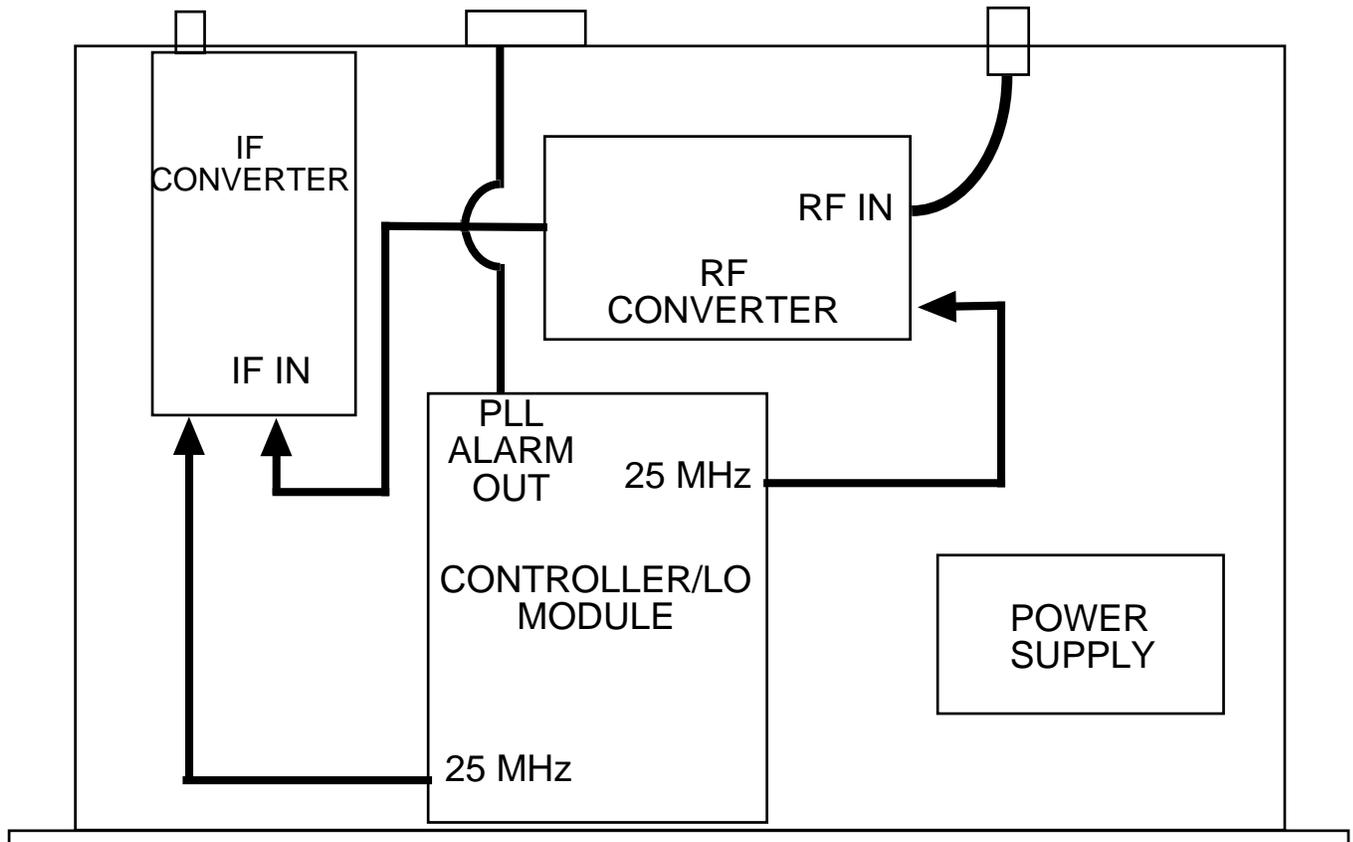

FIGURE 2.1 2089-24 Mechanical Assembly
2.1 Mechanical - The 2089-24 consists of two RF Assemblies, and one Controller/LO PCB housed in a 1 RU (1 3/4 inch high) by 14 inch deep chassis. A switching, ± 15 VDC power supply provides power for the assemblies. The 2089-24 can be secured to a rack using the 4 holes on the front panel. Figure 2.1 shows how the 2089-24 is assembled.